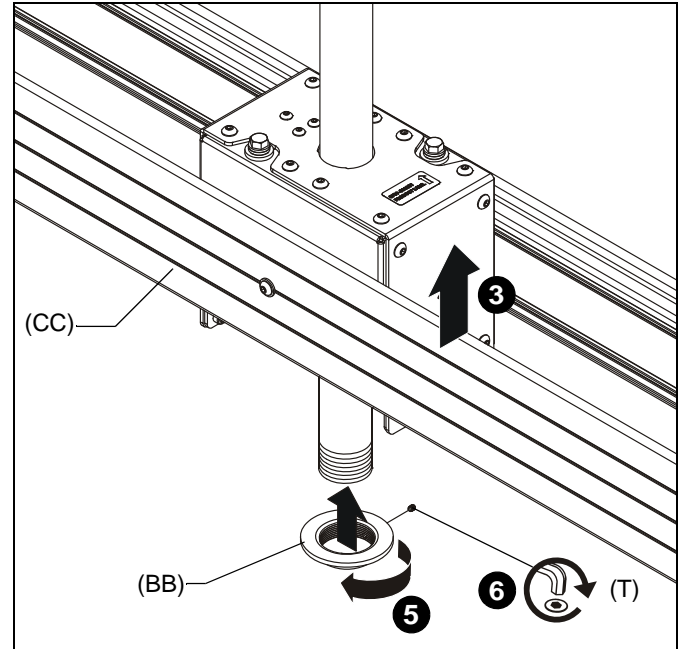

Figure 2
3. Slide ceiling mount (CC) up from below onto installed column (not included). (See Figure 2)
5. Thread bottom coupling (BB) onto installed column until tight, with a minimum of four threads engaged. (See Figure 2)
6. Install and tighten one 10-24 x 1/4" set screw (T) into bottom coupling (BB). (See Figure 2)